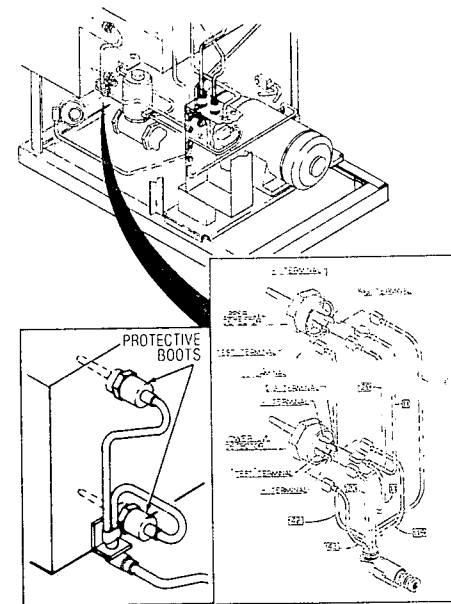

Figure 7-3. WATER LEVEL DETECTORS.
2. To replace a water level detector, detach and tag the wires, and unscrew the probe from the tank, as shown in Figure 7-3.